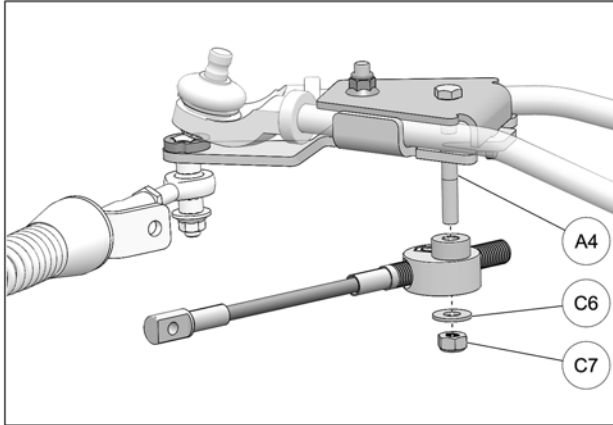

Fig. 23
12. Position steering limiter cable assembly under anchor bracket and slide it over bolt (A4) already inserted. Use washer (C6) and nut (C7) to secure assembly to anchor bracket. Tighten nut to 50 N•m [37 lb•ft]. Refer to Fig. 23